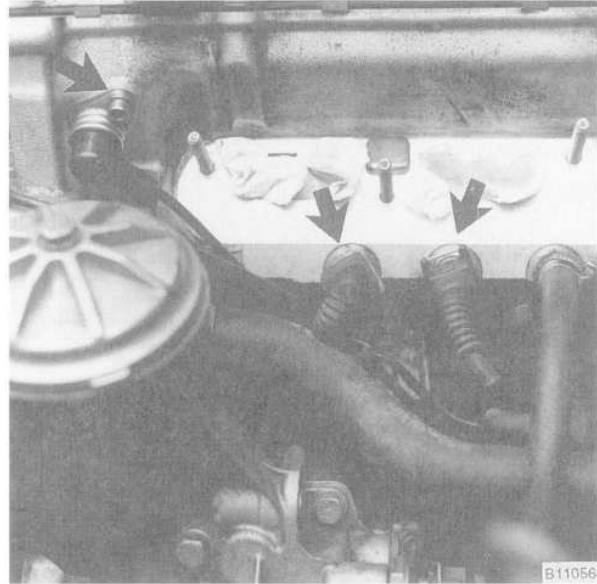

Fig. 16. Harness connectors to be disconnected (arrows).
- Disconnect the cylinder identification sensor, coolant temperature sensor, and the temperature gauge sender connectors shown in Fig. 16.